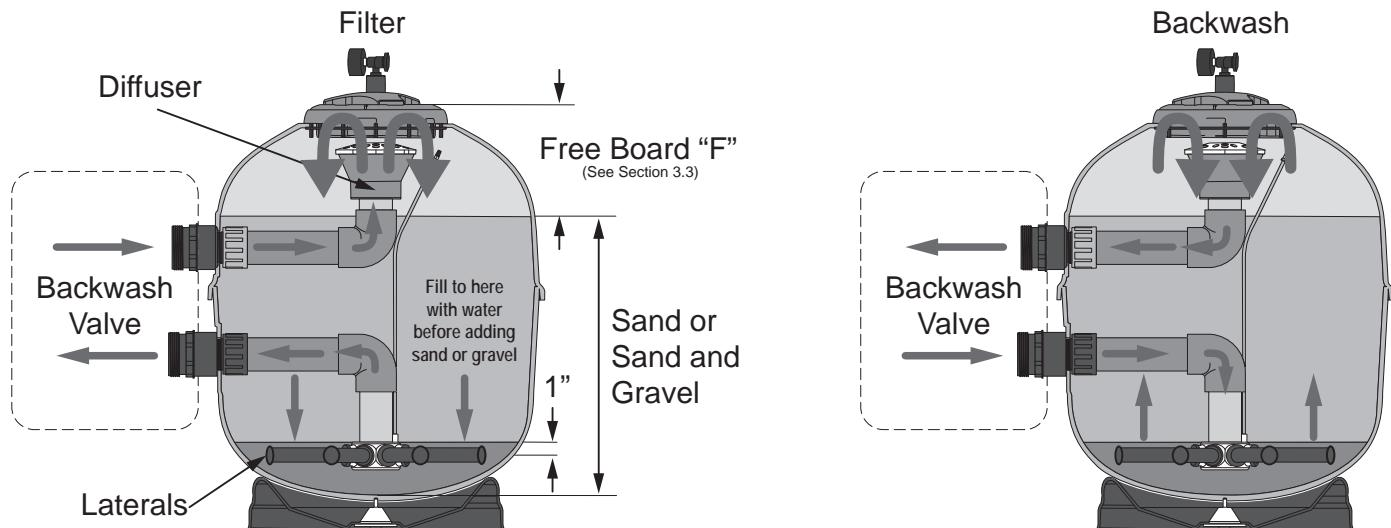

Figure 2. Filter and Backwash Function
Jandy high rate sand filters most commonly use sand as a filter medium, or sand over a shallow layer of pea gravel. See **Figure 2**. The use of filter media other than sand is also described in Section 3.3.1.
- If pea gravel is used, it will cover the laterals to approximately 1" above the laterals. See **Figure 2**.
2. Fill the filter halfway with water before loading the filter media. See **Figure 2**.